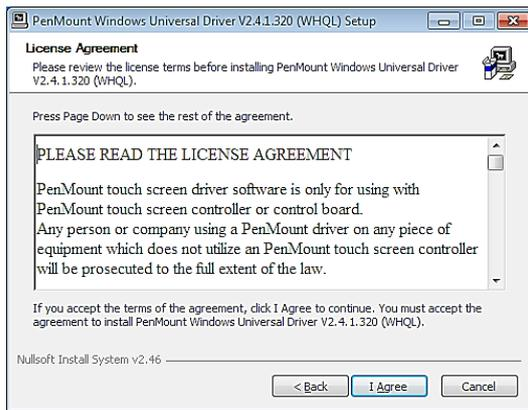

Figure. 100
Step 3: When the license agreement appears, click “I Agree” to continue (Figure. 100).